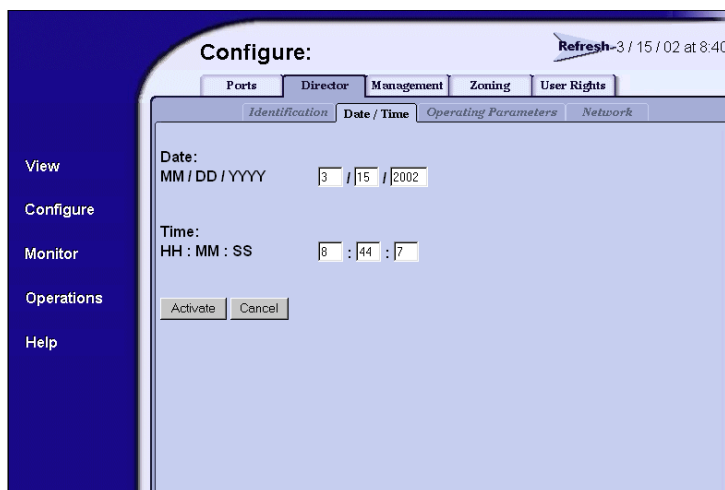

Figure 2-68 Configure Panel (Director Page with Date/Time Tab)
1. At the *Configure* panel, click the *Date/Time* tab. The *Director* page displays with *Date/Time* selected (Figure 2-68).